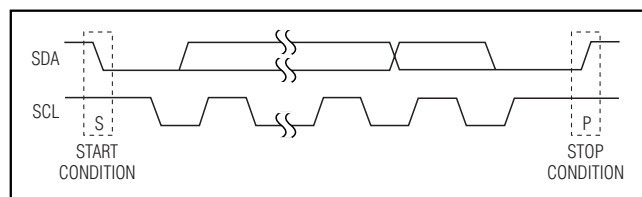

Figure 3. Start and Stop Conditions
Each transmission consists of a START condition (Figure 3) sent by a master, followed by the MAX7313 7-bit slave address plus R/W bit, a register address byte, one or more data bytes, and finally a STOP condition (Figure 3).
from high to low while SCL is high. When the master has finished communicating with the slave, it issues a STOP (P) condition by transitioning SDA from low to high while SCL is high. The bus is then free for another transmission (Figure 3).